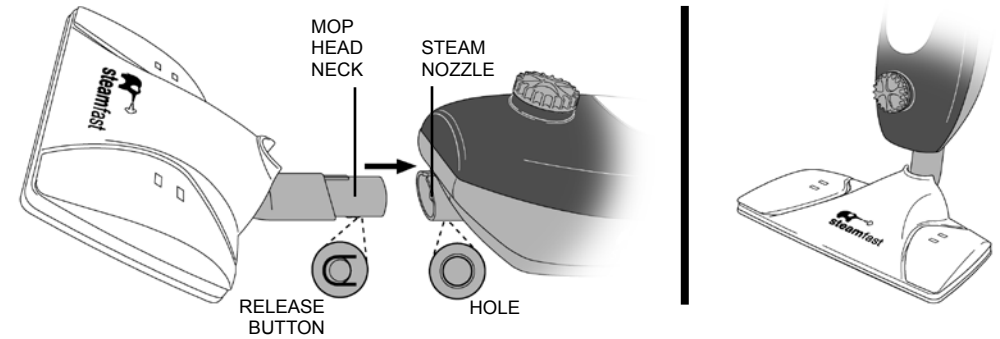

FIGURE 2
1. Align Mop Head with main unit as shown (FIGURE 2), so that neck is in line with Steam Nozzle.